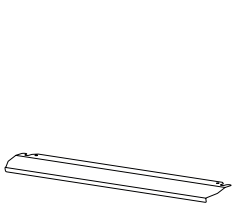

Figure 31
1. A safety panel is designed to protect control panel and the buttons when the oven is in Grill mode (figure 31)